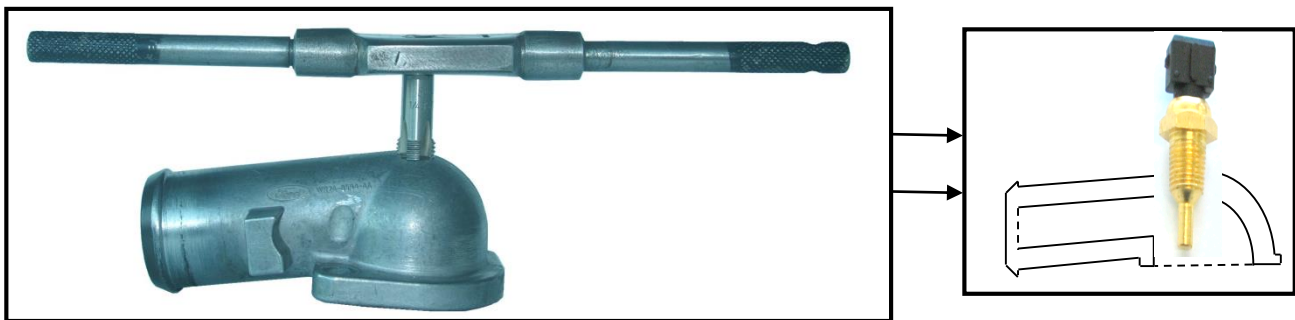

Figure 3: Sensor Installation in to Thermostat Diagram
- 3.** Using a ¼” NPT tap, tap the hole to allow the sensor assembly to “just” protrude the thickness of the thermostat housing (Refer *Figure 3*). It is recommended that the fitment of the sensor assembly be checked regularly to achieve the condition in the diagram.